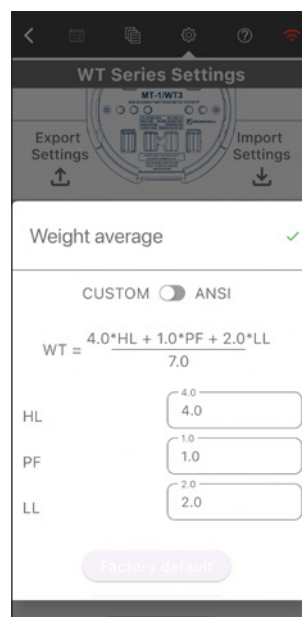

Figure 2
- High load, power factor and low load can be customized by switching the toggle to custom (Figure 2).